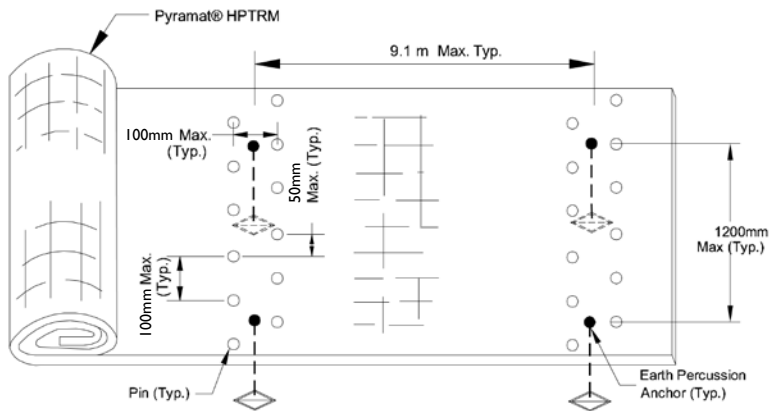

FIGURE 7: SIMULATED CHECK SLOT DETAIL
- For bank heights greater than 13.7m, install simulated check slots per Figure 7. This method includes placing two staggered rows of pins 100mm apart on 100mm centers and one row of earth percussion anchors on 1.2m centers at 9.1m intervals (see Figure 7) or across the midpoint of the bank height for bank heights less than 18.2m.